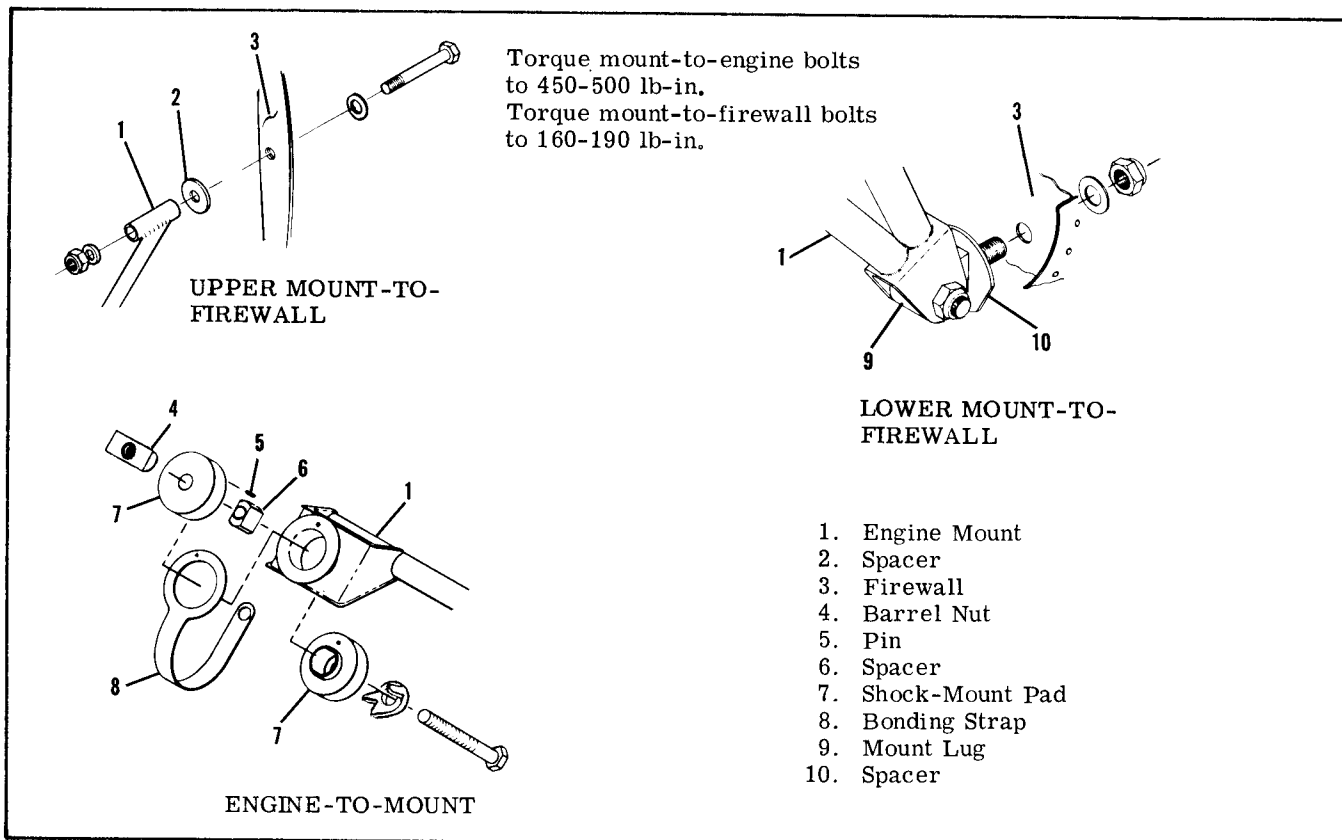

Figure 11A-1. Engine Mount Details
**11A-33. ENGINE SHOCK-MOUNT PADS.** (Refer to figure 11A-1.) The bonded rubber and metal shock-mounts are designed to reduce transmission of engine vibrations to the airframe. The rubber pads should be wiped clean with a clean dry cloth.